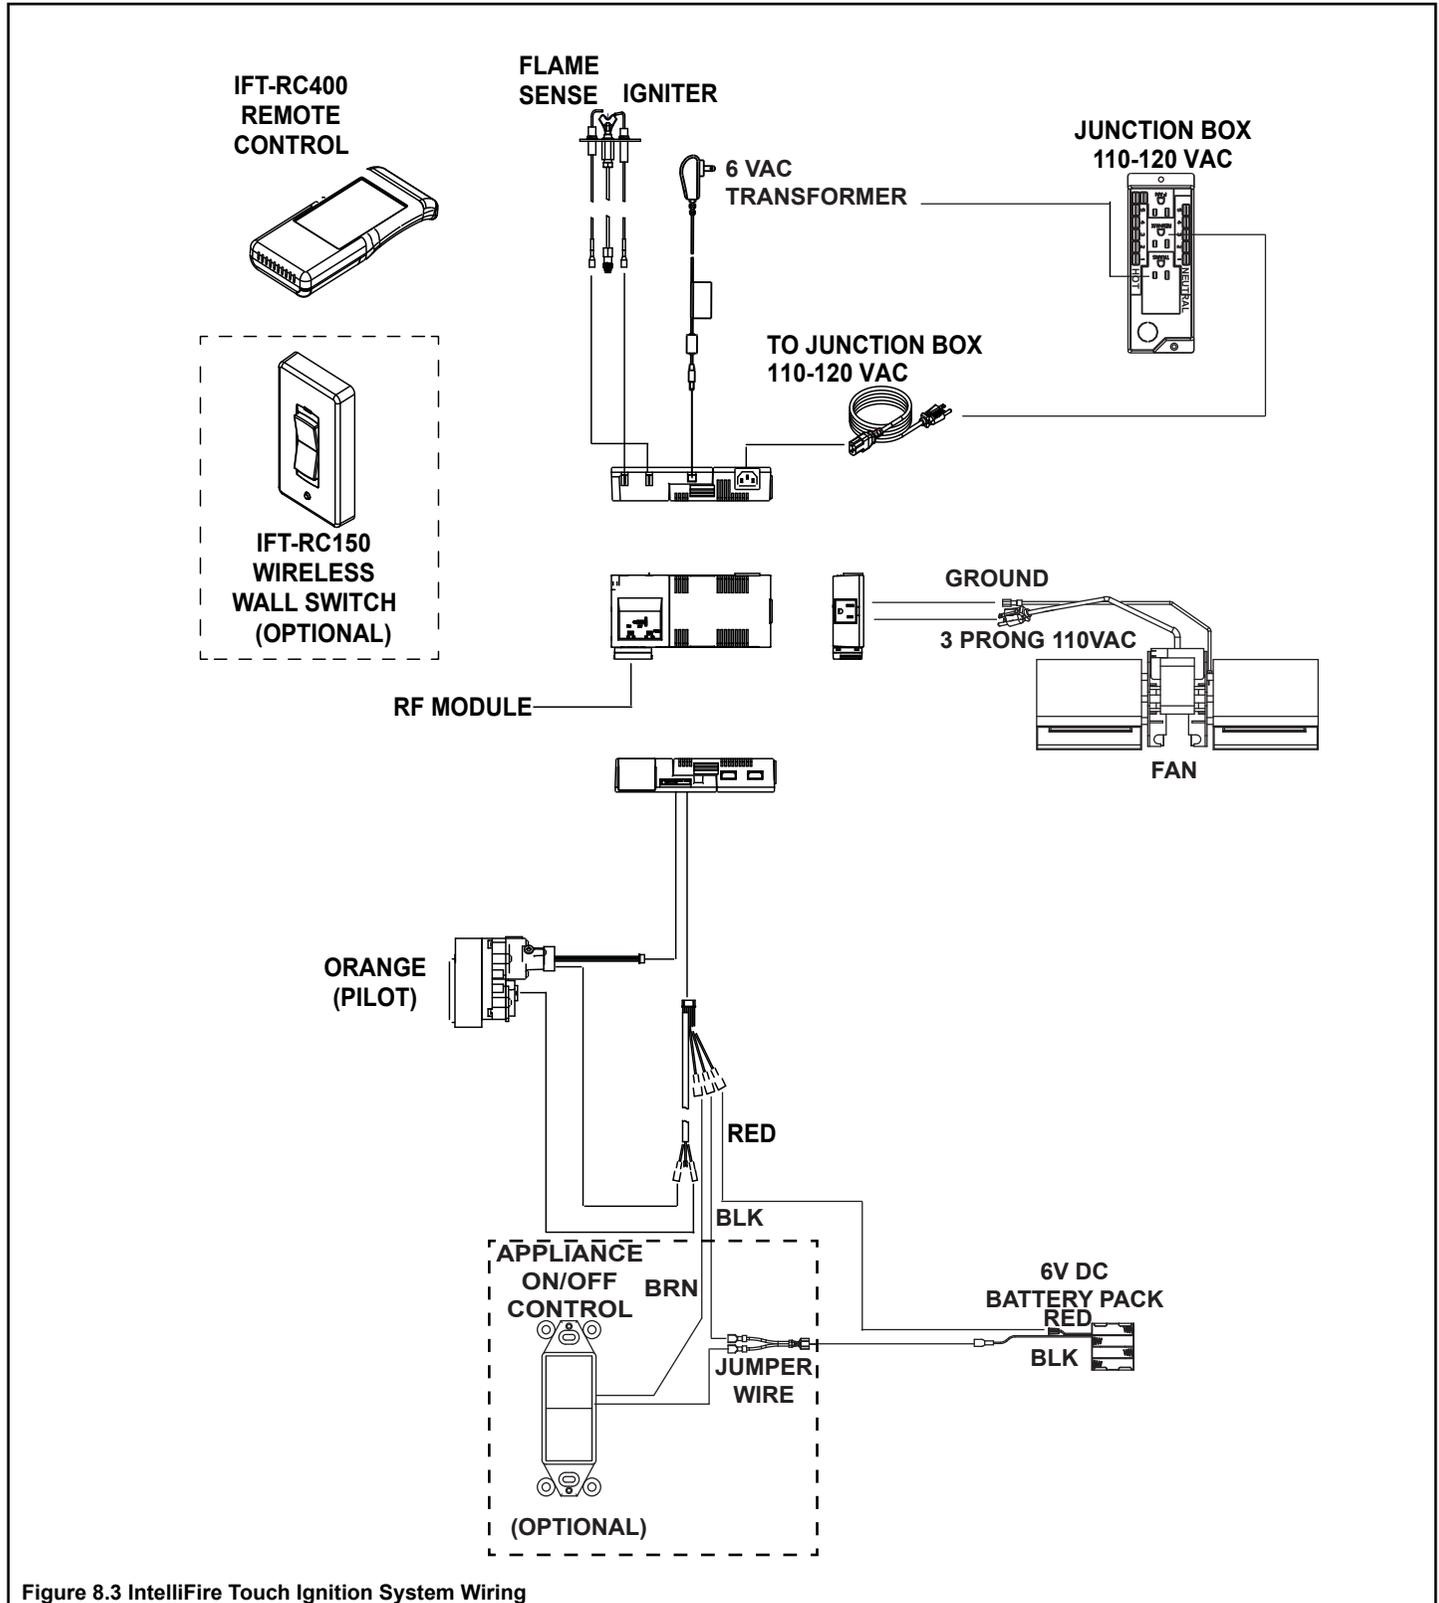

Figure 8.3 IntelliFire Touch Ignition System Wiring
- Refer to Figure 8.3 IntelliFire Touch (IPI) Wiring Diagram.